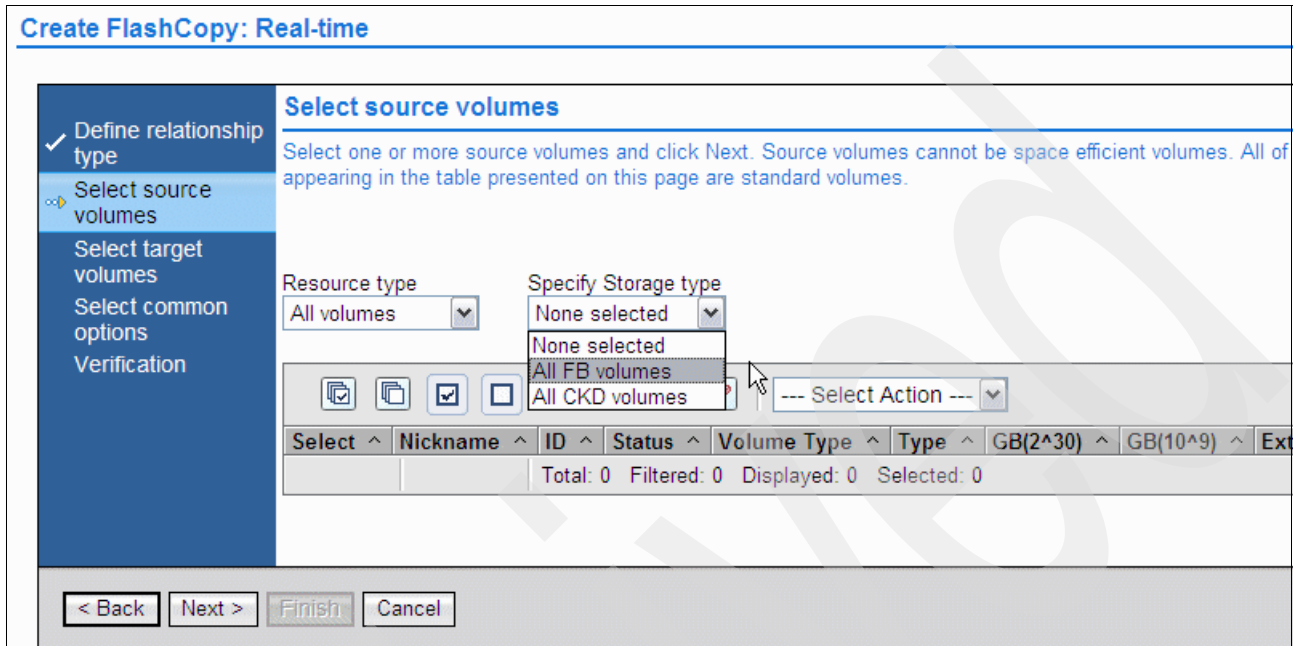

Figure 11-6 Specify Storage Type for source volumes
- In the Select the source volumes panel, specify the storage type for the FlashCopy. Because we are working with a System i environment, we are concerned only with fixed block (FB) volumes, so we select **All volumes** for **Resource type option** and **All FB volumes** for **Specify Storage type** option (see Figure 11-6).